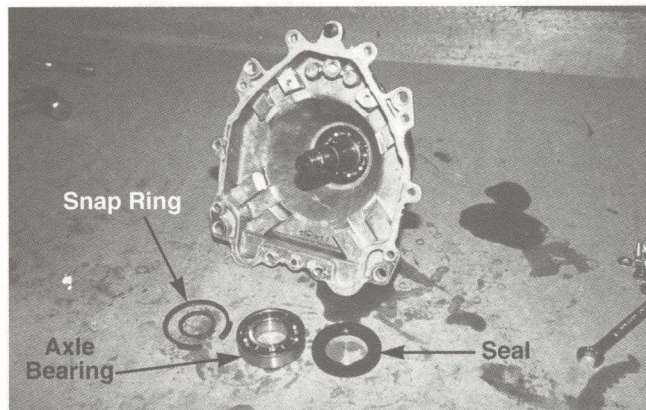

FIGURE 14.
14. Remove the axle from the housing, first remove the snap ring from the axle. See figure 14.